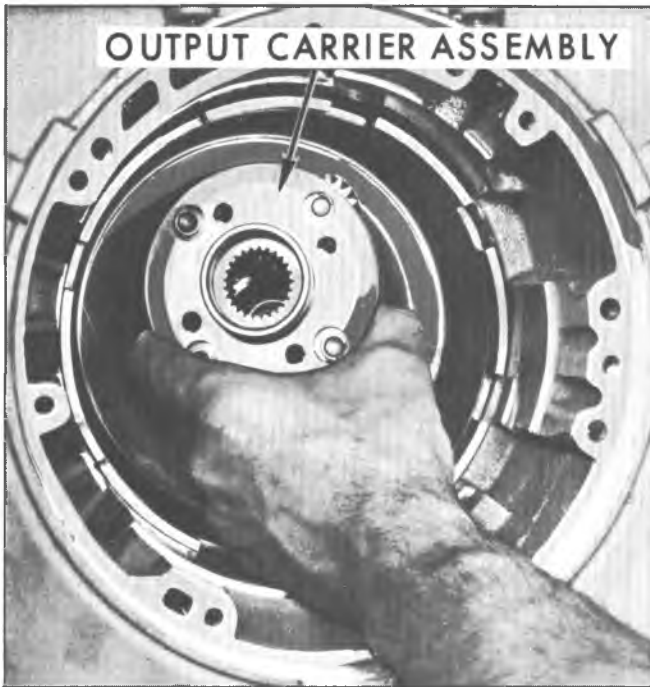

Fig. 37M-Removing Output Carrier Assembly
12. Remove output carrier assembly (fig. 37M).